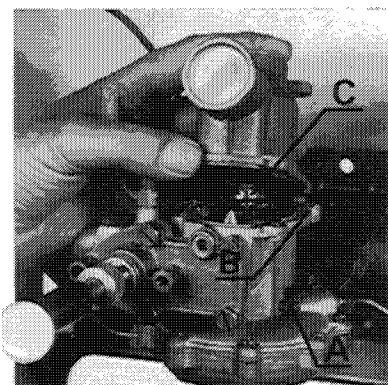

Fig. 22
- Release two screws securing gas section to water section (A fig. 22).
7.3.4 To clean the gas valve (fig. 22)
- Lift the gas section top off the base taking care not to lose springs and valves (C).